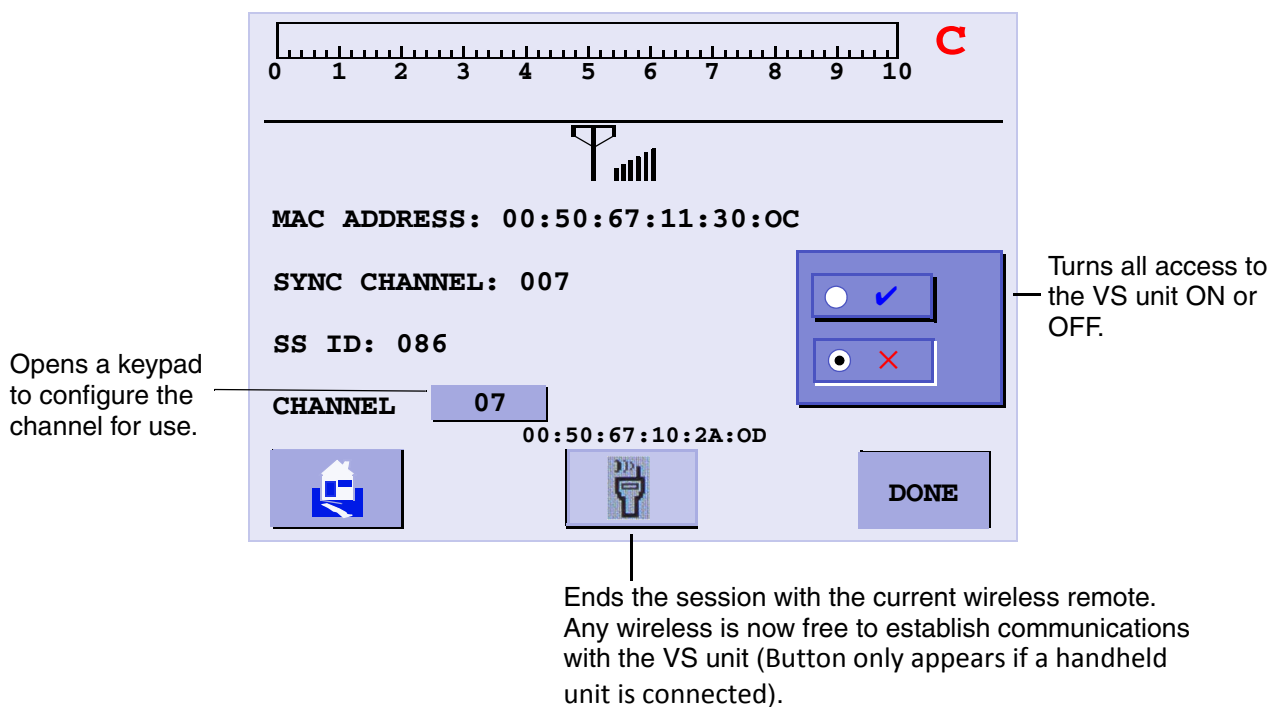

Figure 3-23 Wireless
- ❑ Press the Wireless icon  on the **Setup** screen and the wireless screen appears (Figure 3-23).